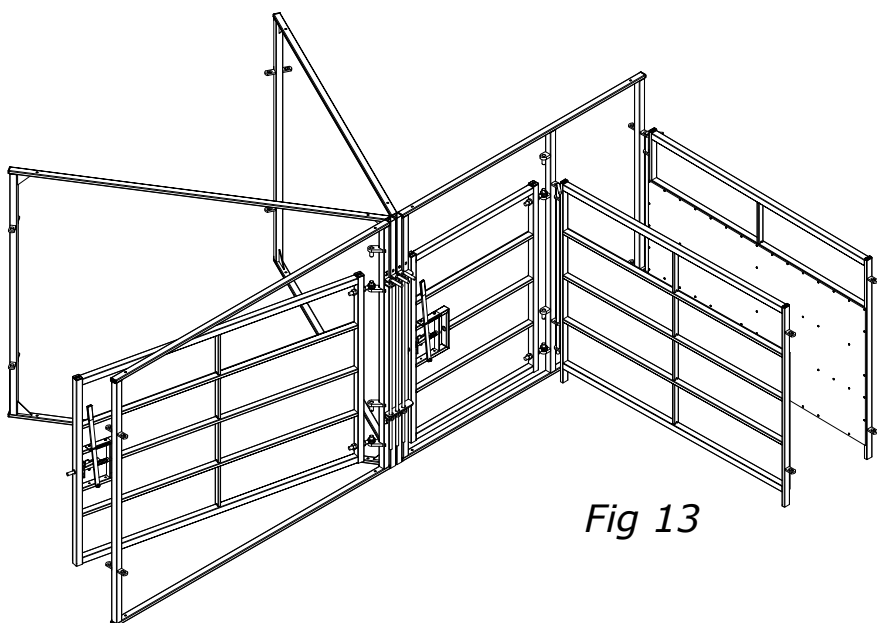

Fig 13
Hang the forcing gate on the hinge hooks on panel (A). On a right-hand system (Fig 13) the stock boarded face will face inward. On a left-hand system the stock boarded face will face outward.